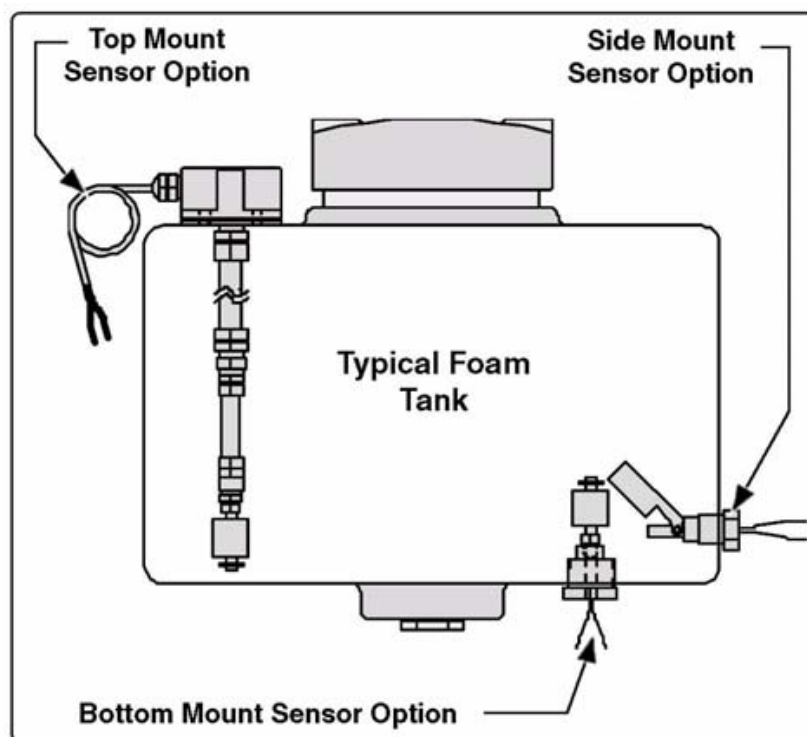

Figure 52: Low Level Sensor Mounting Options
The foam low tank level sensor(s) must be installed and wired to monitor the foam concentrate level (Figure 52).
3. Coat the threads of the sensor with a suitable sealant and insert into tank fitting. Tighten sensor making sure the float is on the top of the sensor (**Figure 52**).